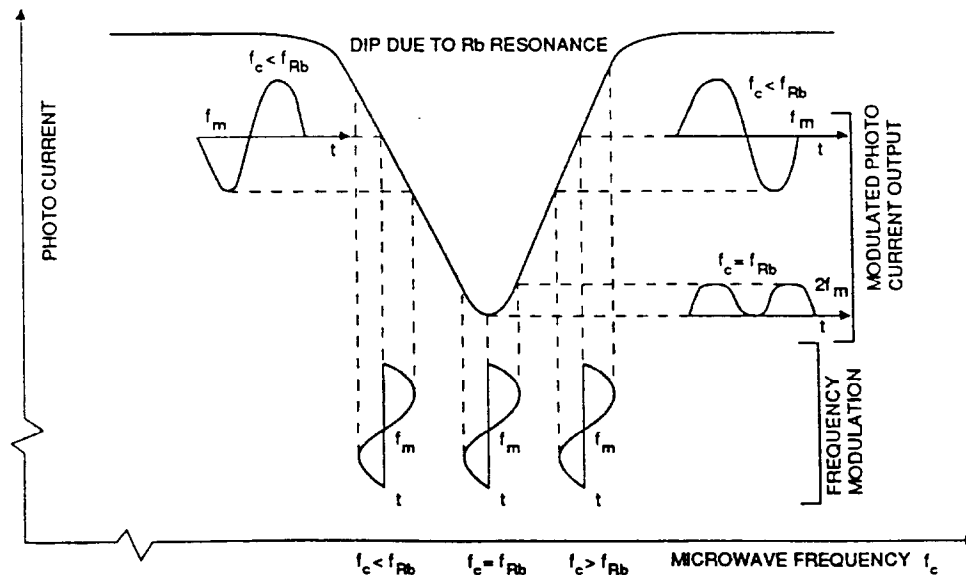
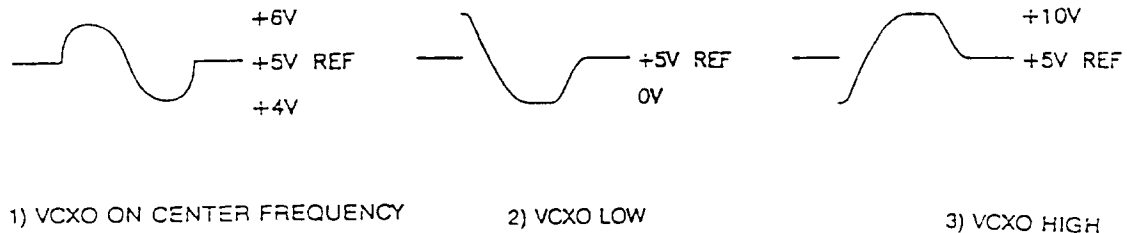

Figure 3-3. Derivation of Modulation Signal
FIGURE 3-7. TP1 Phase and Amplitude Indications.
RUBIDIUM LAMP. Light from the rubidium lamp is generated by an rf-excited plasma discharge. Rubidium in the lamp is heated to a vapor state (approximately 106°C) and subjected to a high-energy rf field. This rf field causes a plasma discharge which produces rubidium light of the proper wavelength. The light passes through rubidium vapor contained in the resonance cell, where some of the light is attenuated. The remaining light is incident upon a silicon photo detector (photocell) within the resonator cavity. When the applied microwave frequency (f_c) is equal to the hyperfine frequency, f_{Rb} , the rubidium atoms resonate with the microwave field in the cavity, causing the light reaching the photo detector to decrease. This decrease in light intensity is made possible by the simultaneous interaction of rubidium light and microwave energy, a process called "Optical Pumping". (This behavior is illustrated by the V-shaped curve in Figure 3-3.)
When the microwave frequency (f_c) in the resonator is exactly equal to the hyperfine frequency (f_{Rb}), the 127 Hz modulation varies the microwave signal around the center of the absorption curve, resulting in a modulation of the photocell current at twice the modulation frequency, or 254 Hz (Figure 3-3). It is this 254 Hz signal which is used to generate the lock indicator signal. The lock indicator signal is the primary indicator that the unit is operating normally. If the microwave signal, f_c , which is synthesized from the 20 MHz VCXO, drifts off the hyperfine frequency, f_{Rb} , the photocell output reverts to the fundamental 127 Hz rate. The phase of the 127 Hz indicates if f_c is above or below f_{Rb} and this phase information is used to move the VCXO frequency in the proper direction until f_c again equals f_{Rb} .
c. **SYNCHRONOUS DEMODULATION.** The amplified modulation signal received at U3, pin 3 is subsequently demodulated at a 127 Hz rate. See Figure 3-3, f_m . The resulting demodulated output (U3, pin 4) can be observed at TP1 on the flex board. See Figure 3-7. The TP1 output signal is the result of synchronous demodulation and contains both phase and amplitude information, indicating whether above, below or "on" the rubidium frequency. The further amplified signal received at U3, pin 2 is demodulated at a 254 Hz rate. See Figure 3-2, $2f_m$. The resulting output (U3, pin 15) is a positive 1/2 cycle of the 254 Hz, $2f_m$